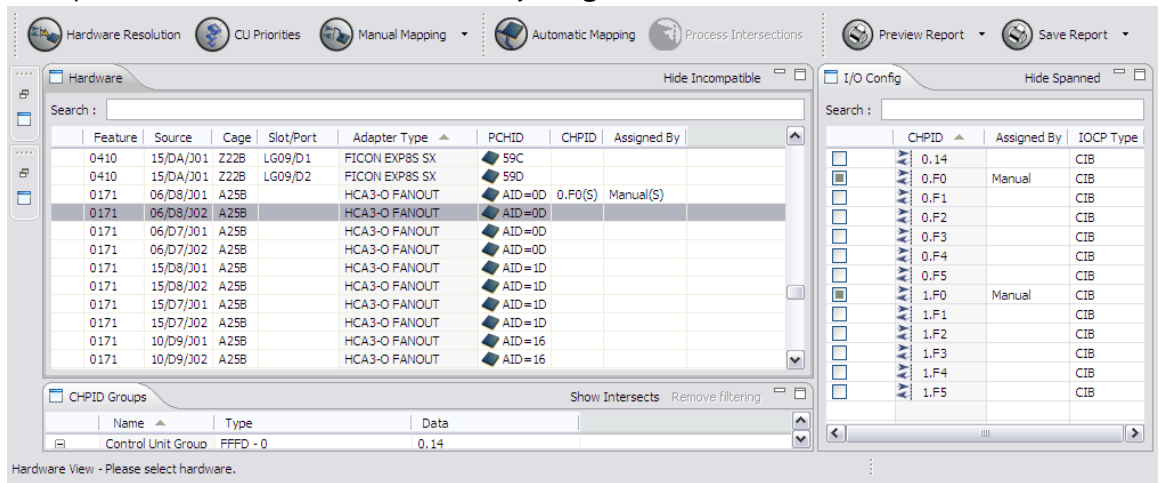

Figure 123. Green square inside check box means CHPID is unavailable
- 3) In the I/O Config pane, a check box might have a green square in it. This means the CHPID is already assigned to another PCHID and you cannot select it. Figure 123 on page 96 shows an example. CHPIDs 0.F0 and 1.F0 are already assigned.